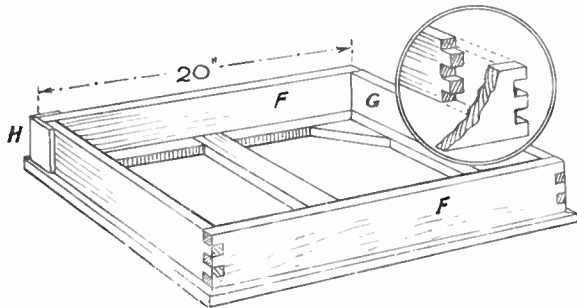

Fig. 2—Construction of the case
known and easily cut in Fig. 2.
This form of joint is satisfactory for a job such as this, for when marked out accurately and carefully cut, it is exceptionally strong. It will be necessary, in setting out the joint, to divide the width of 3ins. into five equal parts, and then set out $\frac{3}{8}$ in. back from the end of each rail as seen in Fig. 2. The cutting
plywood floor of the base. Here it can be glued to the base and countersunk screws run up through this into the four sides of the case. The corner joints must be cleaned off and made smooth, and if the result does not quite please the worker, he may cover them with thin wood which should be mitred and glued to the face of the rails, as at (H) in Fig. 2.
Mahogany is the most suitable wood from which to make the case, but a more common wood such as deal or pine might be used. The construction is simple, as the illustration Fig. 2 shows.